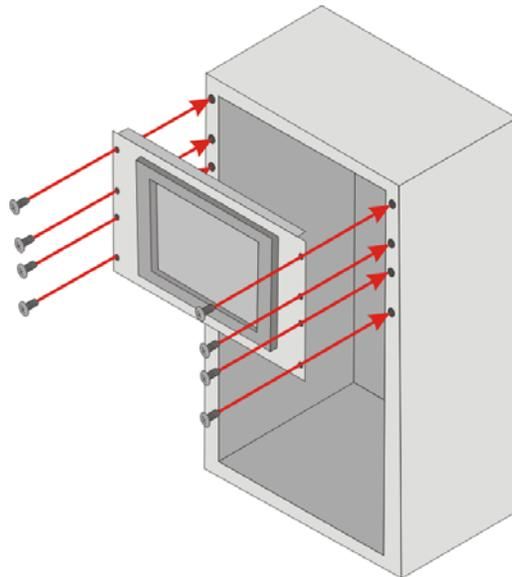

Figure 4-13: Install into a Rack/Cabinet
Step 6: Slide the flat bezel panel PC with the attached rack/cabinet bracket into a rack or cabinet (Figure 4-13).
Step 7: Once the flat bezel panel PC with the attached rack/cabinet bracket has been properly inserted into the rack or cabinet, secure the front of the rack/cabinet bracket to the front of the rack or cabinet (**Figure 4-13**).